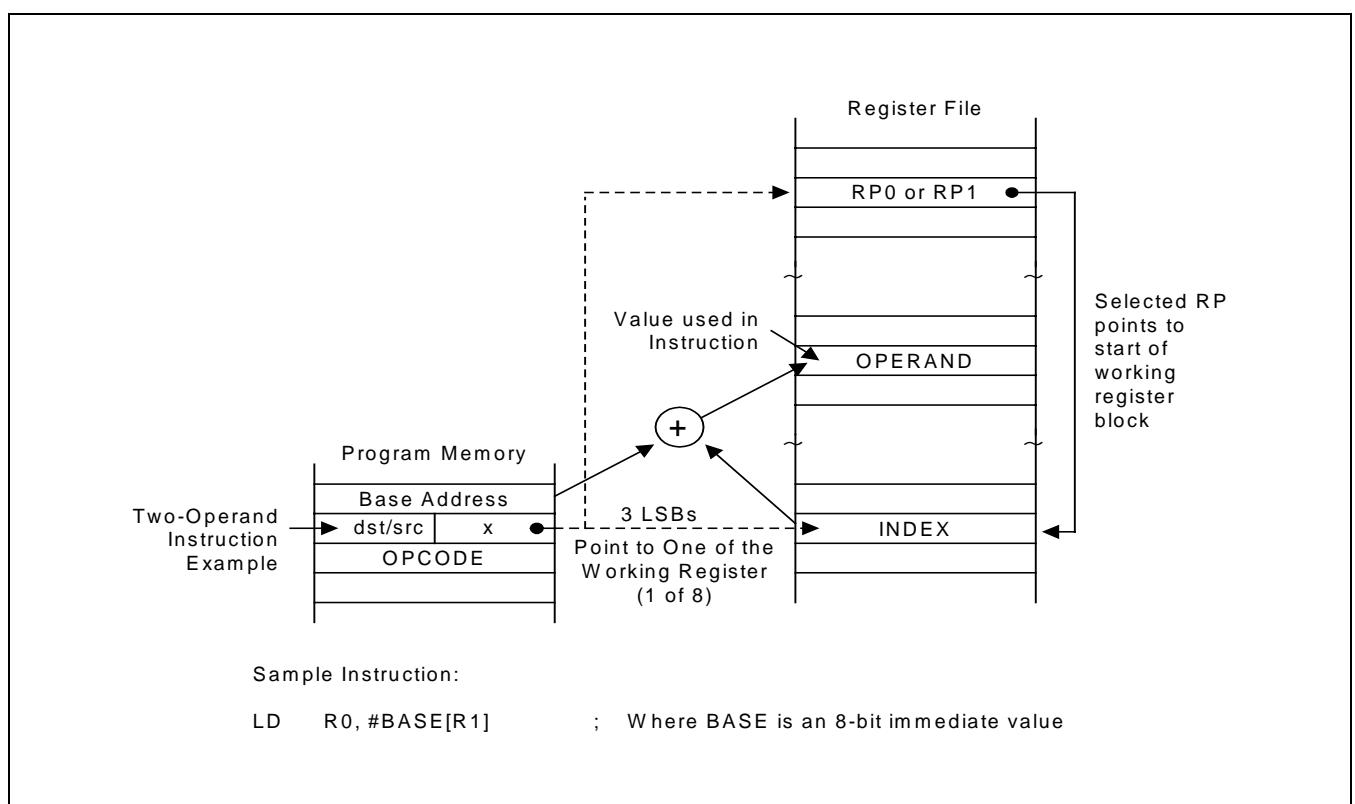

Figure 3-7. Indexed Addressing to Register File
Indexed (X) addressing mode adds an offset value to a base address during instruction execution in order to calculate the effective operand address (see Figure 3-7). You can use Indexed addressing mode to access locations in the internal register file or in external memory. Please note, however, that you cannot access locations C0H–FFH in set 1 using indexed addressing mode.